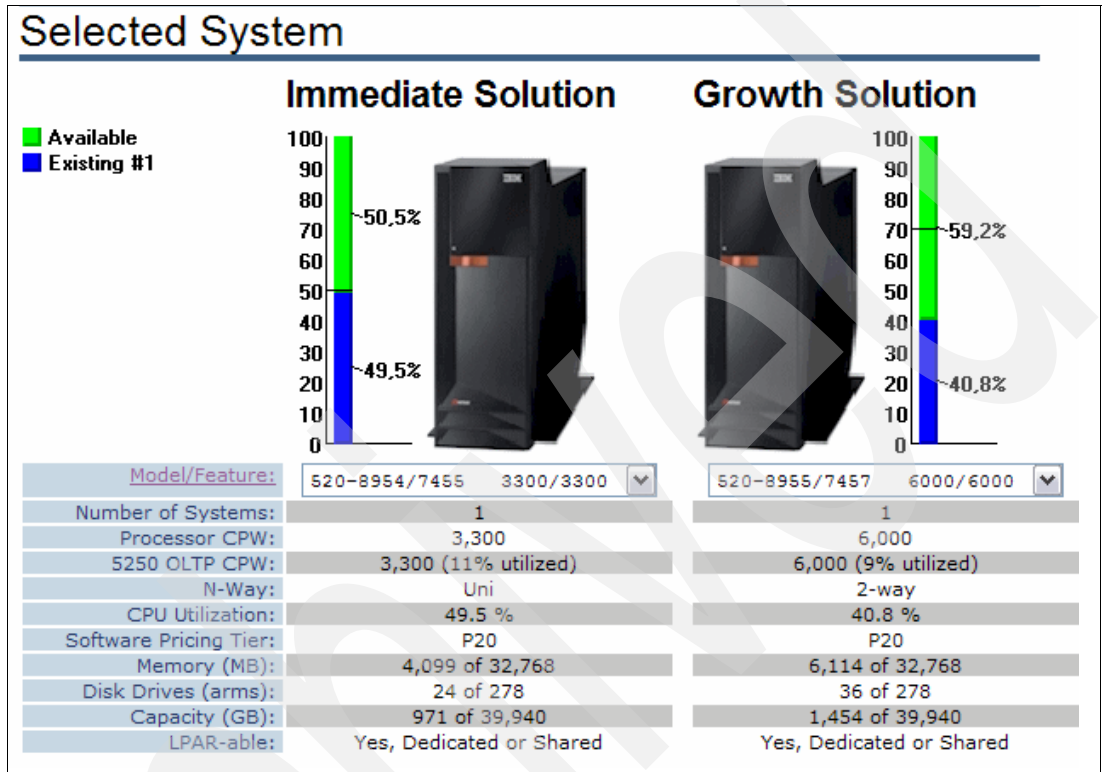

Figure 4-102 Selected system
10. The Selected System panel displays, as shown in Figure 4-102, on which two recommended models are shown. One model is intended as an *immediate* solution, and the other is meant to *accommodate* the workload growth. You can choose other models and features from Model/Feature and observe the predicted utilization with the existing workload. To size external storage with Disk Magic, click the **External Storage** link in the blue tab area at the top of the Selected System panel.